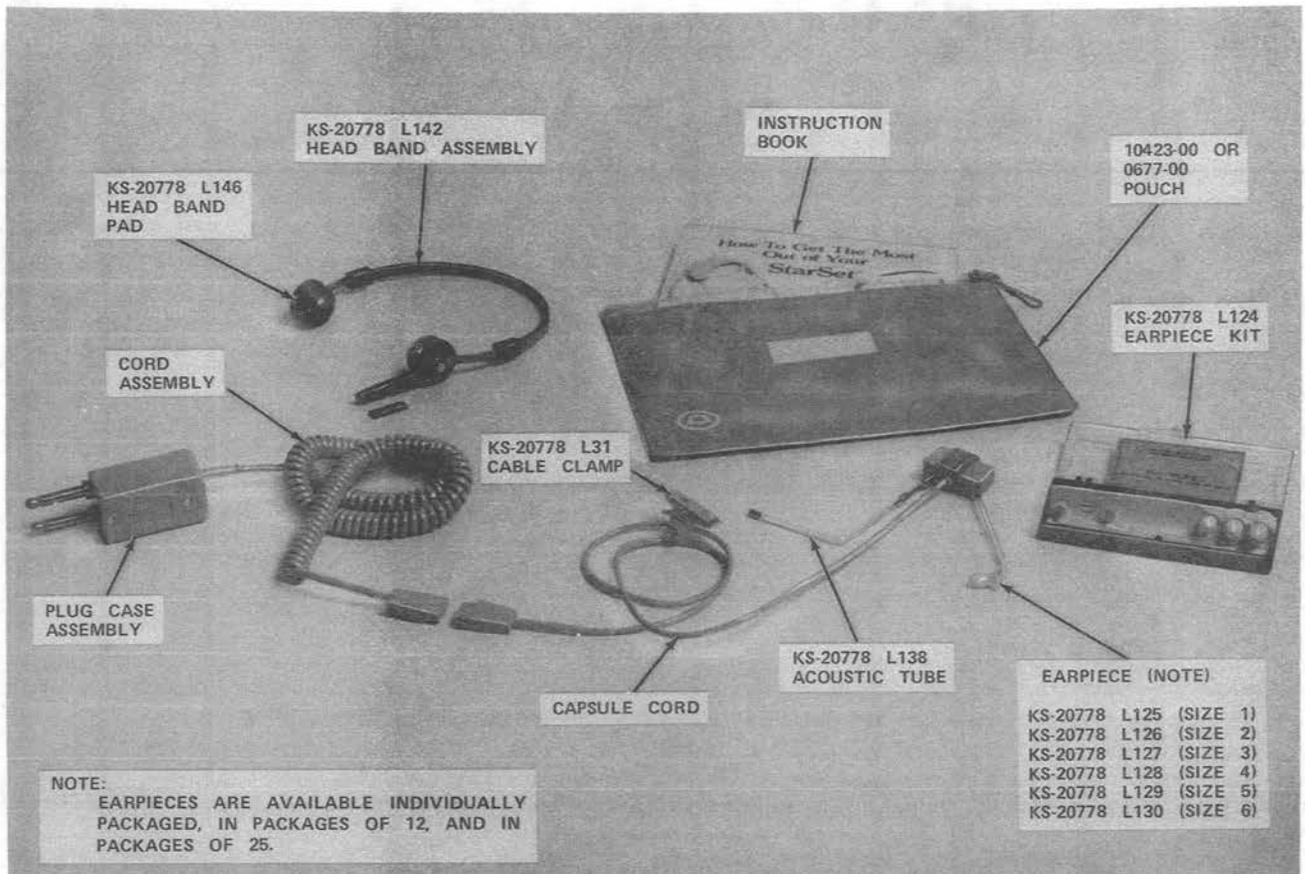

Fig. 7—KS-20778, L117B Head Telephone Set—Quick Disconnect
2.05 The KS-20778, ◆L117B quick disconnect (Q/D)◆ head telephone set (Fig. 7) is primarily intended for use on station sets equipped for head telephone set service and PBX consoles. ◆The L2B head telephone set is equipped with a straight cord containing a Q/D connector between the capsule and the amplifier.◆ The L117B is equivalent to the L101B head telephone set except that a small Q/D connector has been added in the cord. With the Q/D sets, the user can unplug the Q/D connector, thus separating the capsule and its short cord from the amplifier and its longer cord. The amplifier is left plugged into the position jacks. This allows the user to leave the position without removing the head telephone set or placing the call on hold.